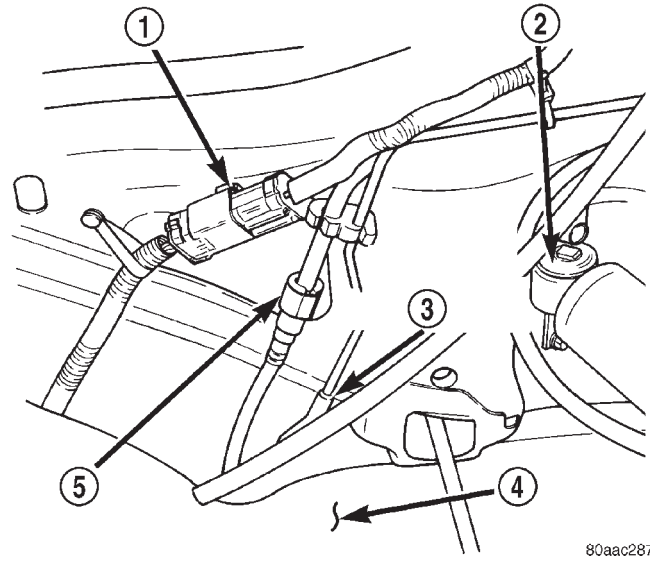

Fig. 35 Fuel Tank Connections at Front of Fuel Tank
(9) Disconnect fuel supply line from fuel extension line near front of fuel tank (Fig. 35). Refer to Fuel Tubes/Lines/Hoses and Clamps in this group. Also refer to Quick-Connect Fittings for procedures.
(10) Disconnect EVAP canister vent line near front of tank (Fig. 35).
- 2 - NUTS (2)
- 3 - STRAPS (2)
(11) Disconnect fuel pump module electrical connector (pigtail harness) near front of tank (Fig. 35). Harness connector is clipped to body.